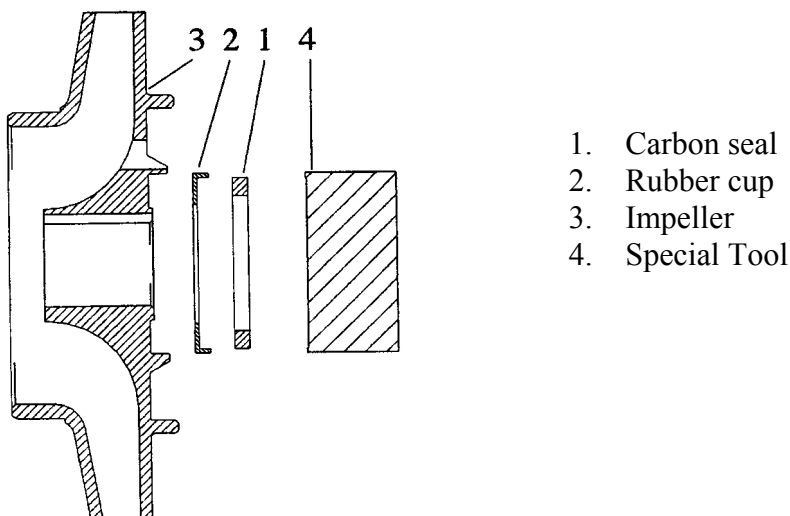

Fig. 3-3 Fitting the seal-and-seating assembly
- 2) The silicon-carbide seal and rubber seating assembly must be **FULLY** and **SQUARELY** **SEATED** in the rear face of the impeller, by using the following assembly procedure (Refer to Fig. 3-3). Incorrect assembly will result in the seal not performing correctly and premature failure.
- i) Using soap solution as a lubricant, fit the silicon-carbide seal (1) into rubber seating (2).
- ii) Apply more soap solution to the seating periphery and use Special Tool No. 56571 (4) with its lip located over the seal, to press assembly **SQUARELY** into the impeller (3) rear face.